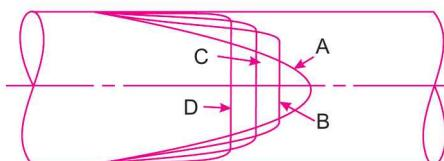

Fig. 3
- 202.** Fig. 3 shows four curves for velocity distribution across a section for Reynolds number equal to 1000, 4000, 6000 and 10000. Curve A corresponds to Reynolds number equal to
- 203.** Curve B in Fig. 3 corresponds to Reynolds number
- 204.** Curve C in Fig. 3 corresponds to the Reynolds number
- 205.** Curve D in Fig. 3 corresponds to the Reynolds number